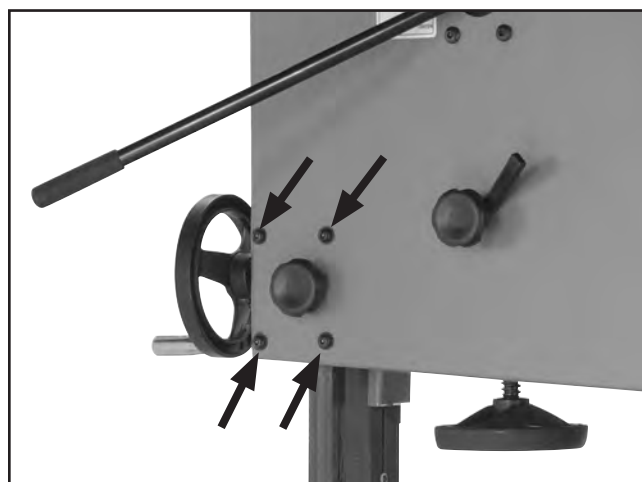
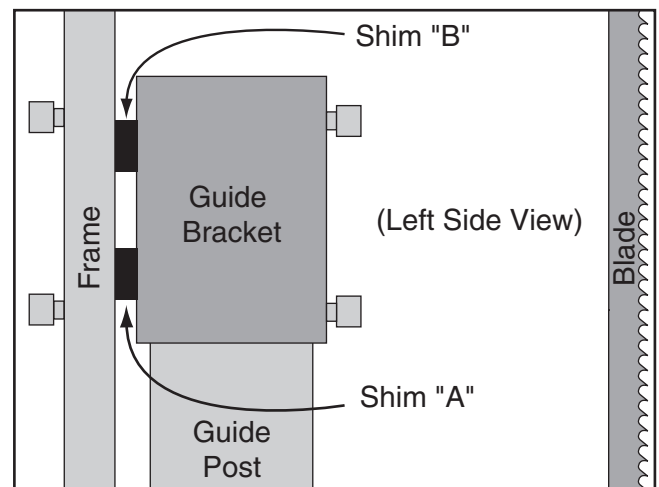

Figure 81. Guide post adjustment screws.
Figure 83. Location for placing shims.
7. Loosen each of the four screws shown in **Figure 81** ¼ turn.
9. Tighten the screws shown in **Figure 81**.
7. Loosen the four screws shown in **Figure 81** enough to fit metal shims between the frame and the guide post bracket (see **Figure 83**).
8. Tighten the four screws shown in **Figure 81**, then repeat **Steps 4–5**.